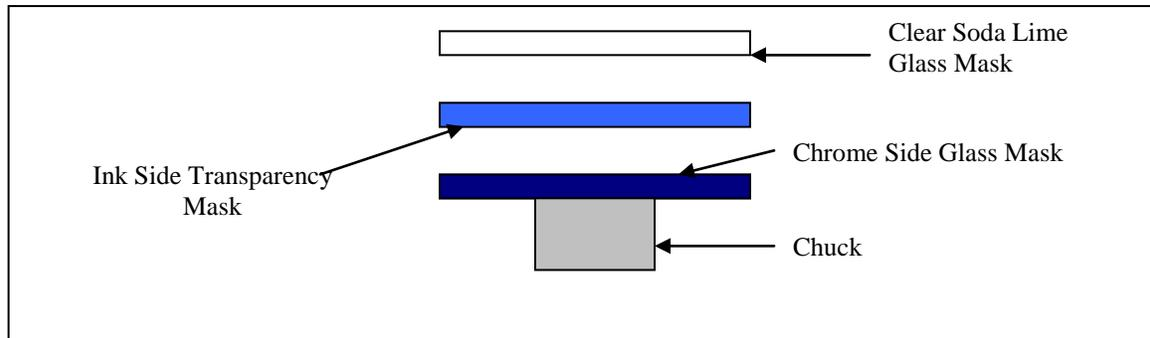

Fig.1 Mask Arrangement in the Aligner
2. Place the photoresist coated chrome glass mask and transparency mask on the chuck in such a way that the ink side of the transparency mask touches the chrome side of the photoresist coated glass mask as shown in fig.1 Try to get both masks centered and square on the chuck.